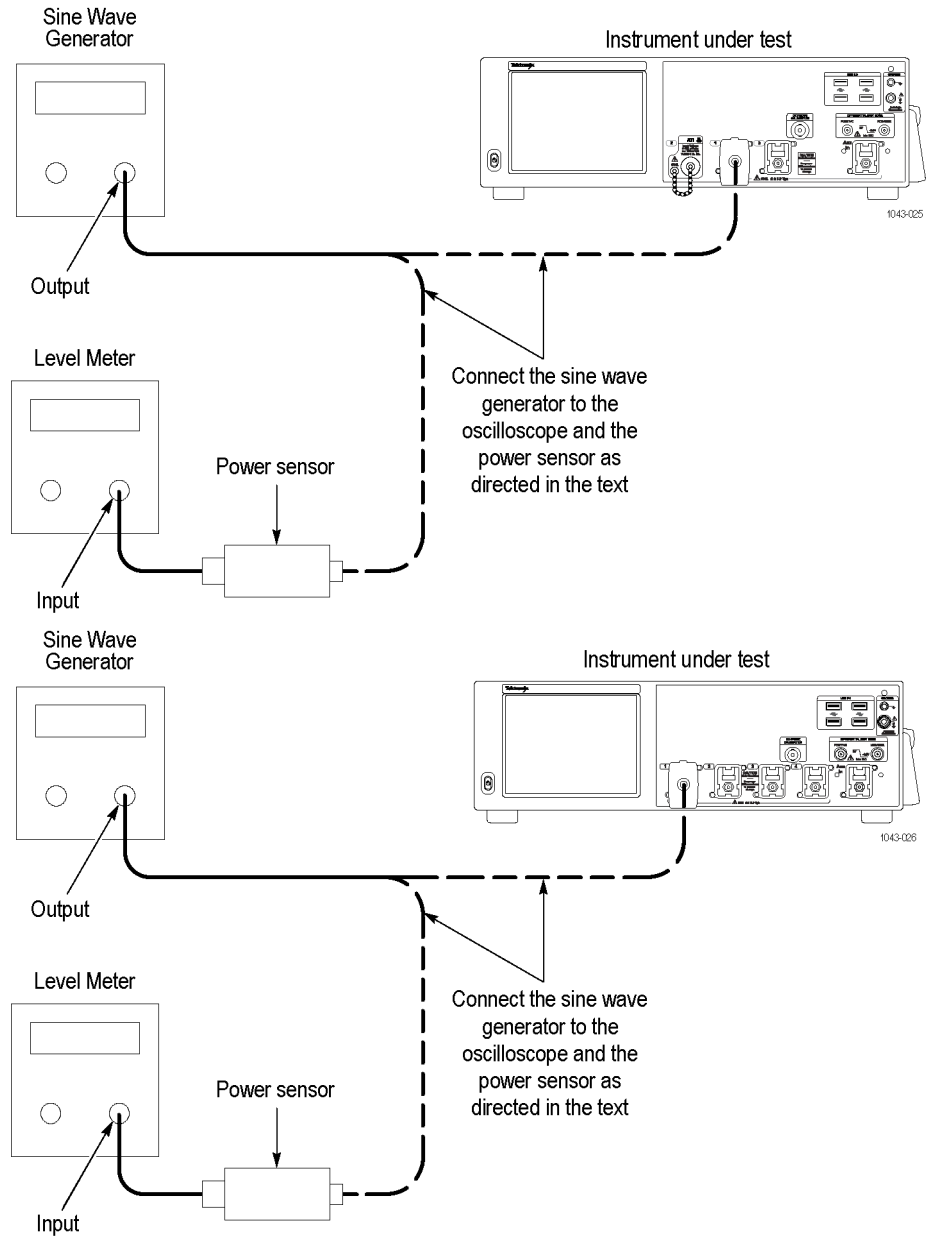

Figure 37: Equipment setup for maximum amplitude
1. *Install the test hookup:* Connect the equipment as shown in the figure below (start with the sine wave generator connected to the instrument). (See Figure 37: Equipment setup for maximum amplitude on page 156.)